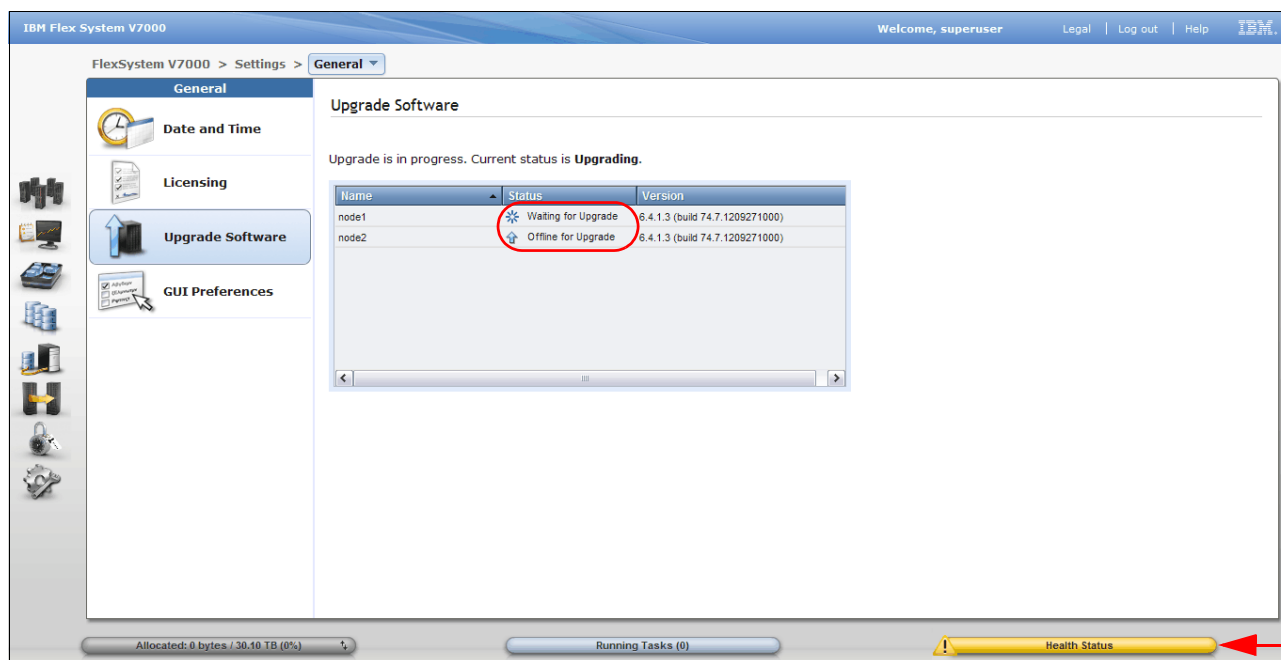
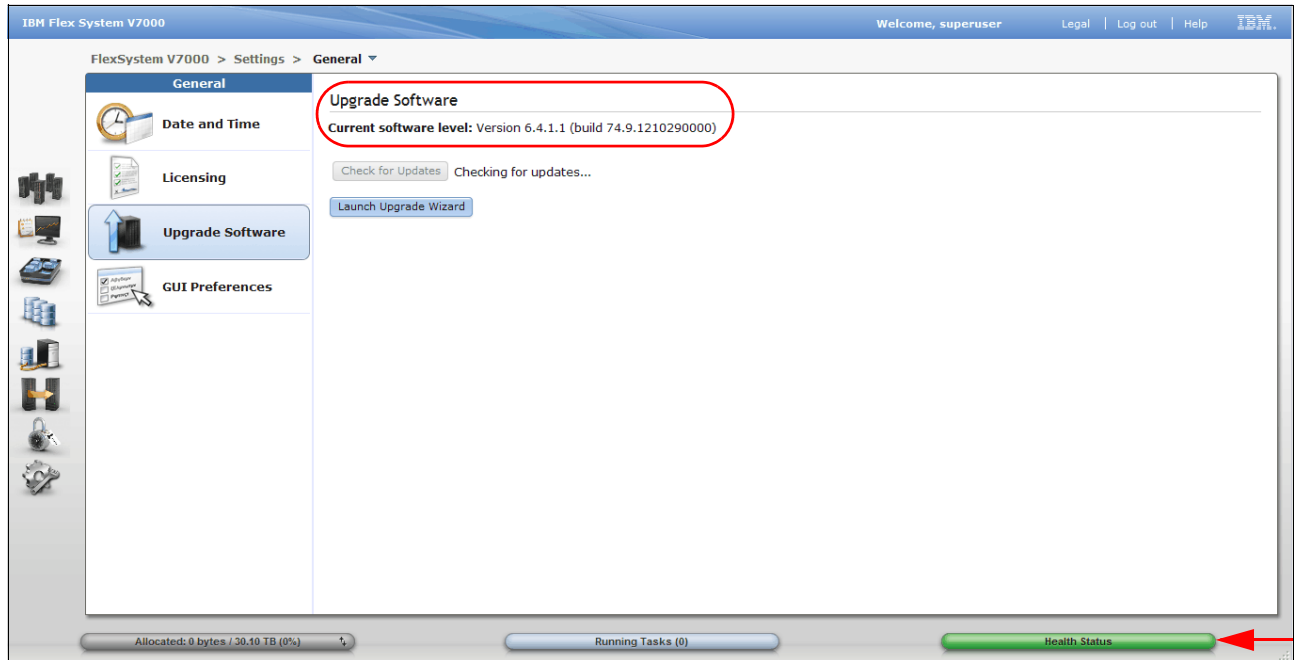

Figure 13-17 Monitoring upgrade status
Figure 13-18 Software upgrade complete
11. Click Finish to complete your software upgrade. You receive message that inform you that first node, then the other, has been upgraded. When both nodes have been rebooted, you have completed your IBM Flex System V7000 Storage Node software upgrade, as shown in Figure 13-17.
Note: System Health Status changes from green to yellow as soon as the upgrade started on the first node canister, as shown in Figure 13-17. It will change from yellow to green again when the upgrade on the 2nd node is complete, as shown in Figure 13-18 on page 547
After the upgrade on the 2nd node is complete, the health status will turn green as shown in Figure 13-18 on page 547.